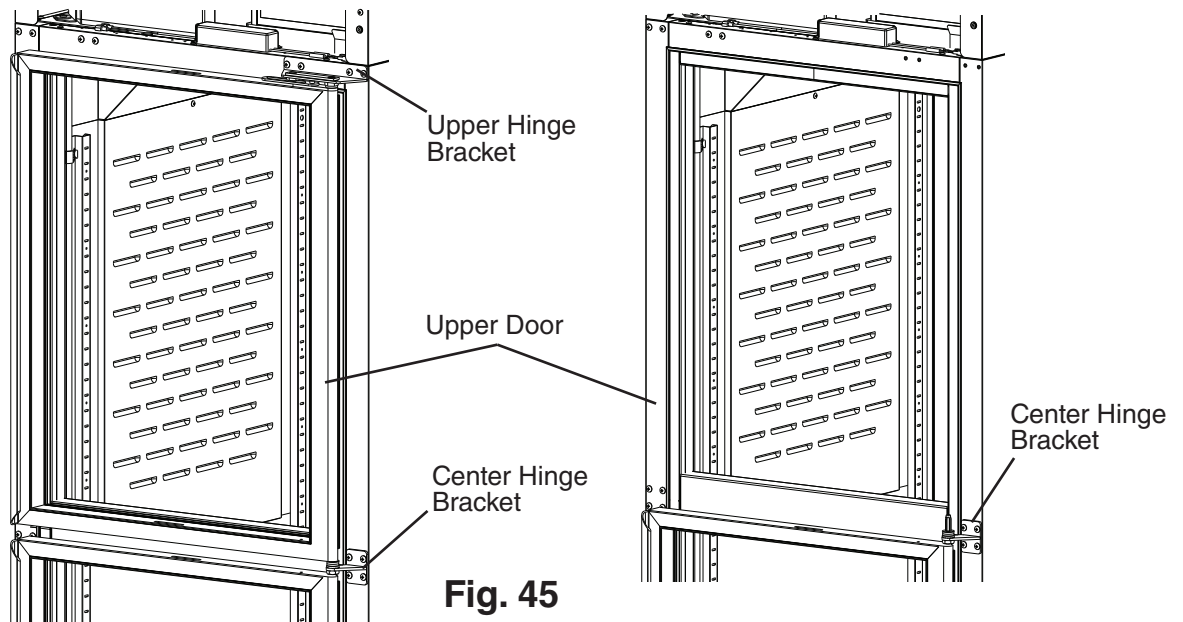

Fig. 45
- 8) Close the upper door, while maintaining a hold on the door, remove the upper hinge bracket, then lift the door off the center hinge bracket upper pin and set aside. See Fig. 45. Retain the upper door thrust washer and the center hinge bracket thrust washers and washer for opposite side hinge bracket installation. **NOTICE! Thrust washers must be in place to prevent wear and damage to the hinge brackets.**